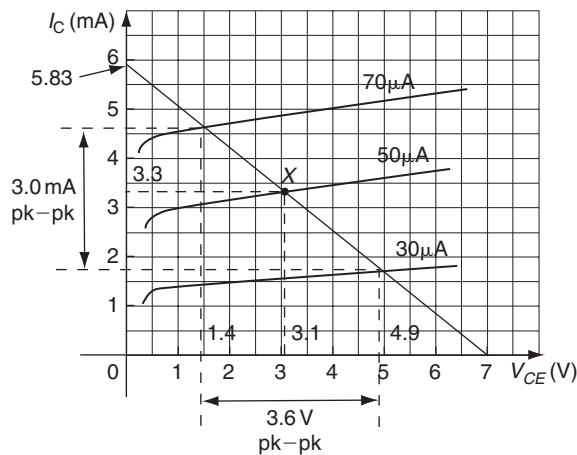

Figure 12.26
The characteristics are drawn as shown in Fig. 12.26.
- (b) The maximum and minimum values of collector–emitter voltage may be determined by locating the appropriate intercept points on Fig. 12.26. Note that the maximum and minimum values of base current will be  $(50\text{ }\mu\text{A} + 20\text{ }\mu\text{A}) = 70\text{ }\mu\text{A}$  on positive peaks of the signal and  $(50\text{ }\mu\text{A} - 20\text{ }\mu\text{A}) = 30\text{ }\mu\text{A}$  on negative peaks of the signal. The maximum and minimum values of  $V_{CE}$  are, respectively, 4.9 V and 1.4 V. Hence,
From Fig. 12.26, the output current swing, i.e. the change in collector current,  $\Delta I_C = 3.0\text{ mA}$  peak to peak. The input base current swing, the change in base current,  $\Delta I_B = 40\text{ }\mu\text{A}$